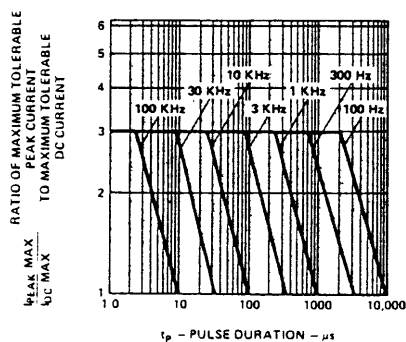

Figure 5. Maximum Tolerable Peak Current vs. Pulse Duration. ($I_{DC\ MAX}$ as per MAX Ratings)
- See Figure 5 (Red), 10 (Yellow) or 15 (Green) to establish pulsed operating conditions.